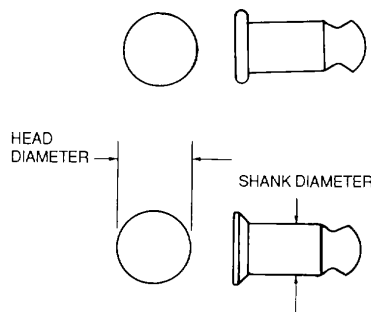

Figure 2-54. Hi-Shear Rivets
h. Hi-Shear Rivets. Hi-shear (pin) rivets, as shown in figure 2-54, are essentially threadless bolts which are inserted like rivets Each rivet consists of two parts a stud and a collar. The stud is made of 4130 alloy steel, or equivalent, heat-treated to 125,000 to 150,000 psi, and cadmium-plated The collar is anodized 2117-T4 aluminum alloy. The installed rivet can be readily identified by the presence of the attached collar rather than the ordinary formed head of the standard rivets Use Hi-shear rivets in shear applications only As the shear strength of the steel is considerably greater than either the shear bearing strength of aluminum alloys, these special rivets are used to advantage only in the thicker sheet gauges Never use Hi-shear rivets where the grip length is less than the shank diameter (3/16-inch for smallest available rivet). Use the 100-degree countersunk type where flush surfaces are desired Hi-shear rivets may be replaced with close tolerance bolts of the same material, strength and diameter, where absolutely necessary. Use flush-headed bolts for flush-headed rivets and protruding head bolts for protruding head rivets. The bolt thread must not extend into the material.